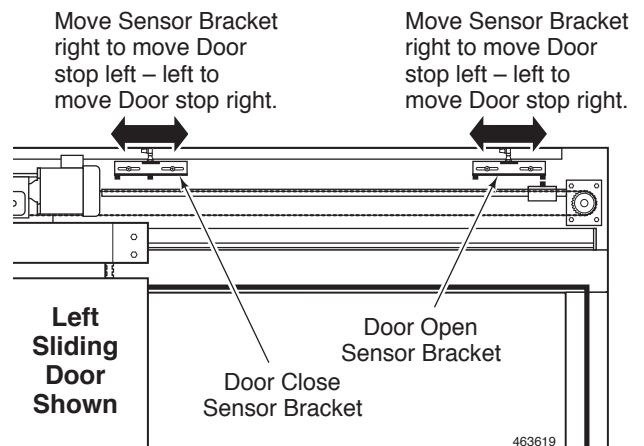

Figure 29
2. Loosen the Sensor Bracket and slide it the same distance, and the *opposite* direction, as the desired new Open position. See Figure 29.
1. With the Door in the full Closed position, measure the distance the Door must move to reach the desired Closed stop location. See Figure 29.